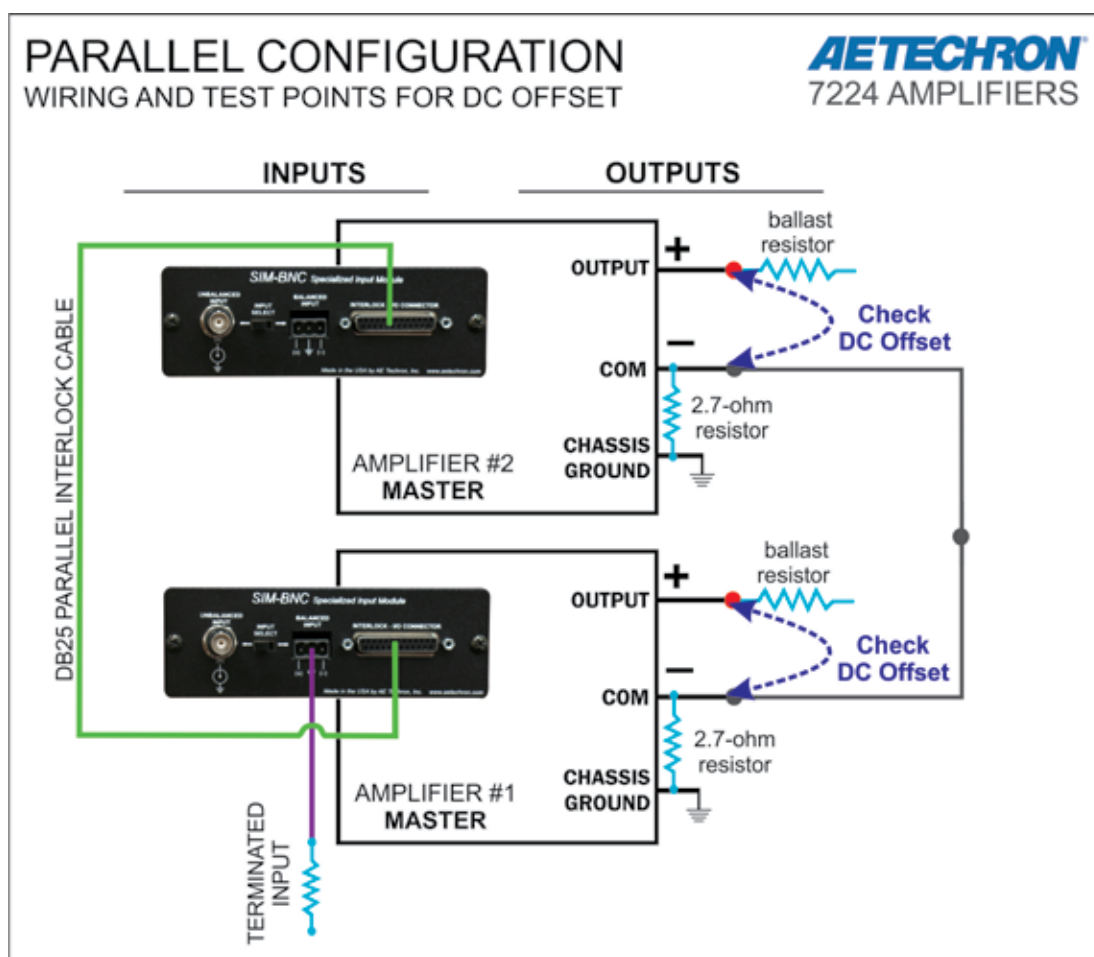

Figure B.2.21 – Wiring and Test Points for Interlock Verification and DC Offset Adjustment
- A. For each amplifier in your system, connect a leg of the black output cable found in the Parallel Wiring Kit to one of the amplifier's output connectors labeled COM on the amplifier back panel. Important: Do not connect this cable to the LOAD and do not connect the red cable at this time. See **Figure B.2.21**.
- B. Starting with either end of the DB-25 Parallel Interlock cable found in the Parallel Wiring Kit, connect the DB-25 connector to the INTERLOCK – I/O CONNECTOR on the SIM-BNC input card of the first amplifier in your system. Connect additional connectors on the DB-25 cable to the INTERLOCK – I/O CONNECTOR on the SIM-BNC input card of additional amplifiers in your system. See **Figure B.2.21**.
- E. Using a digital voltmeter set to DC, measure across the amplifier's back-panel output connector terminals (OUTPUT to COM) to verify that the DC offset of each amplifier is less than 5 mVdc. See **Figure B.2.21**.